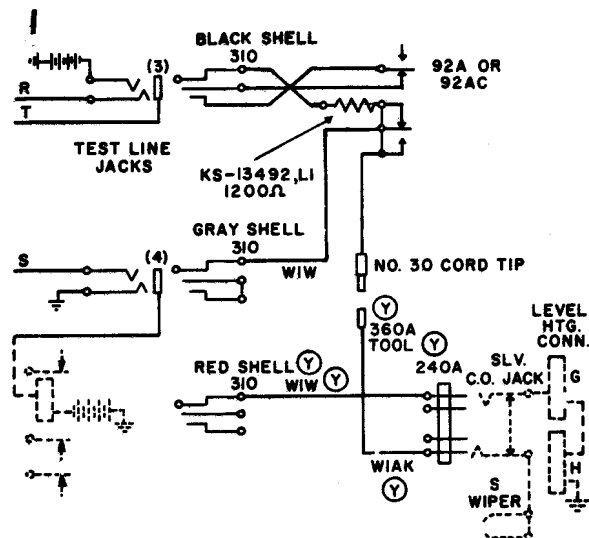

Fig. 1
2.05 Special test cords to be made up locally per Fig. 1 (or equivalent) (remove the No. 59 cord tips from the WLW cords and the banana plug from the WLAK cord before connecting these cords as shown in Fig. 1).
4.25 Insert the black and gray shelled No. 310 plugs of the special test cord (Fig. 1) into the No. 3 and No. 4 test line jacks, respectively, on the connector frame. The cord and apparatus designated (Y) is used only when testing level hunting connector shelves.
Note 1: To test level hunting connector shelves insert the black and red shelled No. 310 plugs of the special test cords (Fig. 1) into the No. 3 and No. 4 test line jacks, respectively, on the connector frame. Connect the No. 360 tool to No. 30 cord tip. Insert the No. 240A plug into the sleeve cutoff jack of the connector per